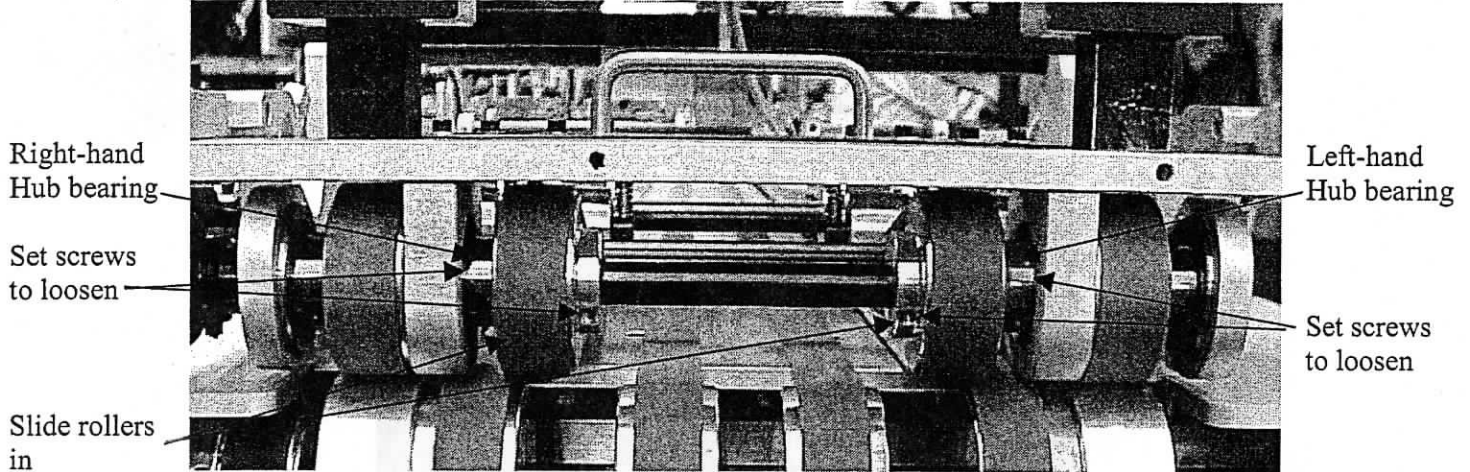

Figure 5
11. If further adjustment is still required, loosen the set screws securing the hub bearings to the upper belt roller shaft (see Figure 5). Loosen the two inside drive roller set screws and slide the rollers toward each other.